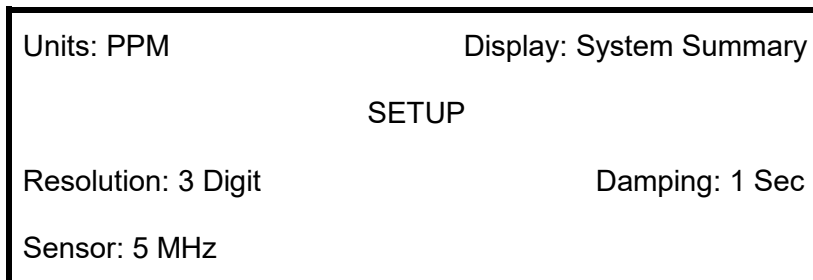

Figure 3-5: Setup Menu
1. The "SETUP" menu. The parameters that can be chosen are: units (use the arrows), the resolution of the main display in digits to the right of the decimal point, and the instrument damping. See Figure 3-5. The "Display" menu allows the user to set the top screen to display "Raw Data" (which is given In COUNTS) or "Reading" that is the "Raw Data" mathematically transformed into the user-defined units and system summary. Press "PREVIOUS" or "MAIN MENU" to return to the main menu